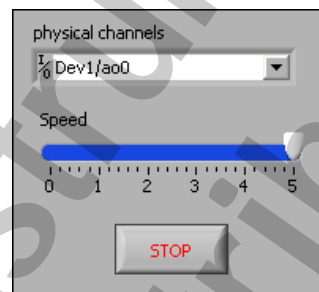

Figure 4-2. Variable Servo Fan VI Front Panel
4. Modify the front panel as shown in Figure 4-2.